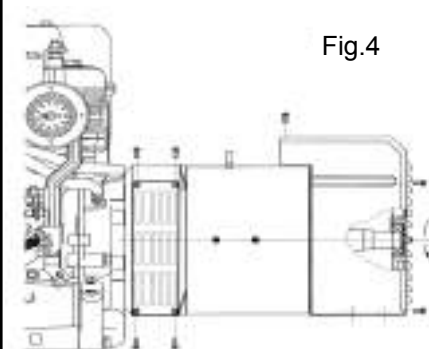

Fig.4
-) block the central stay rod, applying a tightening torque of $21 \pm 7\%$ Nm if you are using stay rods of M8, while if you are using M14 stay rods, apply a tightening torque of $120 \pm 7\%$ Nm; reassemble the lateral protective nets and the rear closing grid by applying a tightening torque of $3,5 \pm 7\%$ Nm to the M5 screws (figure 4)